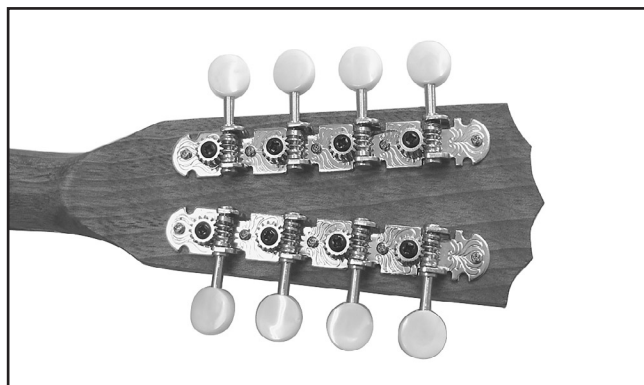

Figure 25. Tuning machines installed in the peghead.
4. Attach both tuning machines to the peghead with the #1 x 3/8" screws (**Figure 25**).